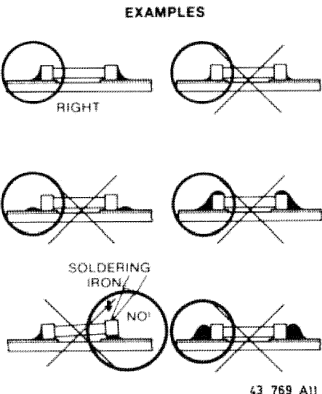

Fig. 3
- g. The quantity of solder must be proportional with the size of the solder land. If the quantity is too great, the SMD might crack or the solder lands might be torn loose from the printed board (see Fig. 3).